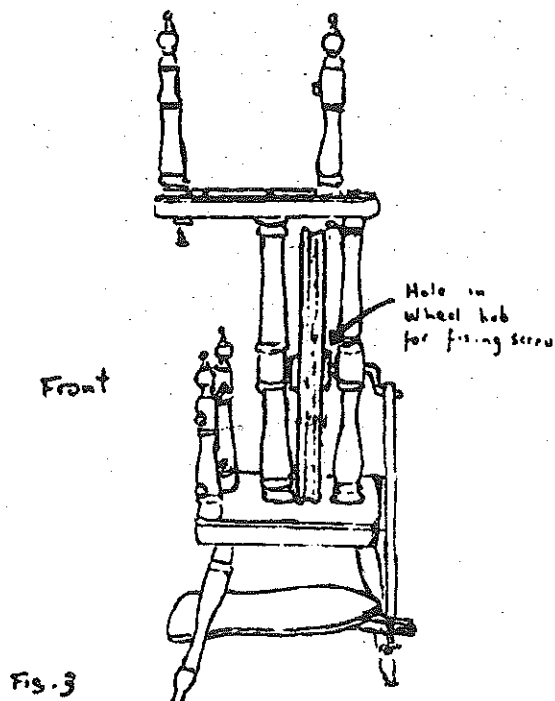
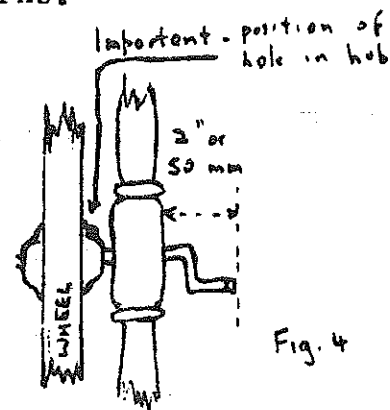

Fig. 3
Fig. 4
4. Assemble the wheel uprights Stand the base on its legs and take the pre-assembled wheel uprights and top bar. Remove the nuts and washers from the base and discard the spacer cross-bar. Insert the bolts into the base holes, making sure the long top bar faces over the Lazy Kate as shown in Fig 3. Fit the washers and tighten the nuts under the base firmly.
5. Assemble wheel and crank The two ball bearings are pre-aligned. Push the crank shaft into the rear bearing, then through the centre hub of the wheel. The fixing screw hole in the hub must face towards the rear (see Fig 3) Note the position of the drilled hole in the crank shaft. This must be lined up under the hole in the hub before the screw is put in. When the crank is fully in, adjust the position of the crank until it measures 2" (50 mm) from the upright (See Fig 4). Insert a nail or wooden match into the hole in the wheel hub and move the crank until you can feel the drilled hole in the crank shaft. Line it up with the hole in the hub by twisting fully each way against the nail in the hole and then centre by returning to the middle. Remove the nail and insert the fully threaded  $1\frac{1}{4}$ " (31 mm) screw. When the screw is in, move the crank a little back and forth and gently retighten the screw until all movement ceases and the screw is bedded into the drilled hole in the shaft. The wheel should now turn freely, and if you push it by hand it should continue turning for more than 50 turns.